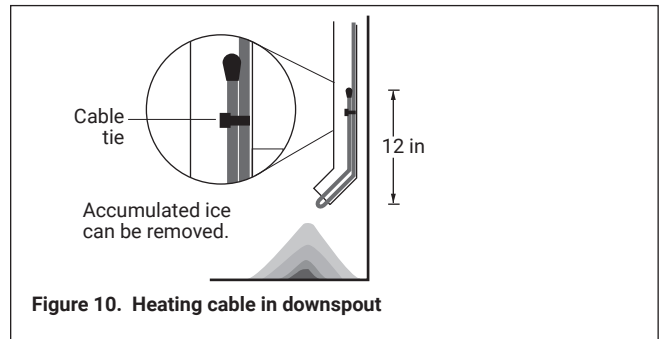

Figure 10. Heating cable in downspout
- Run heating cable along gutters and into downspouts, ending below the freezing level. Permanent attachment of the cable to the gutter bottom is not necessary. Loop the heating cable in downspouts. Do not leave the end of the FrostGuard in air at the end of the downspout as shown in Figure 10.